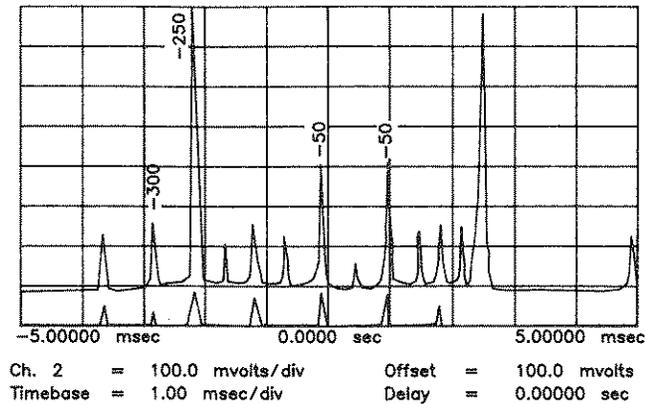

Figure 5-10c. Frequency Response of Notch Filters, 965 MHz Setting.
13. Set the HP 8657D frequency to 965 MHz and observe the oscilloscope Chan 2 display. The beat note levels should resemble those shown for channel 2 in Figure 5-10c. (the 50 MHz beatnotes are shown with non adjusted levels.) Adjust A4L39 (50 MHz Notch Filter) until the 50 MHz beat notes are at their minimum amplitude. Adjust A4C75 to maximize the 250 MHz signal while keeping the 300 MHz signal at minimum.